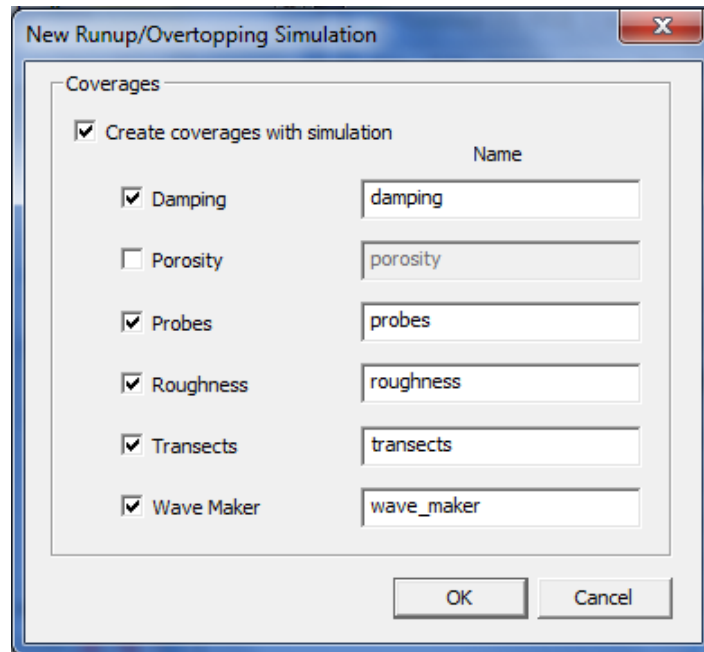

Figure 3 New Simulation dialog with coverage flags selected.
2. The “New Runup/Overtopping Simulation” dialog (Figure 3) appears. A runup/overtopping simulation links many components together. These components are each represented by GIS objects (arcs and polygons) in one or more coverages. If these are not defined when the simulation is created, SMS can create place holders as the simulation is initialized. This dialog controls which coverages will be created.